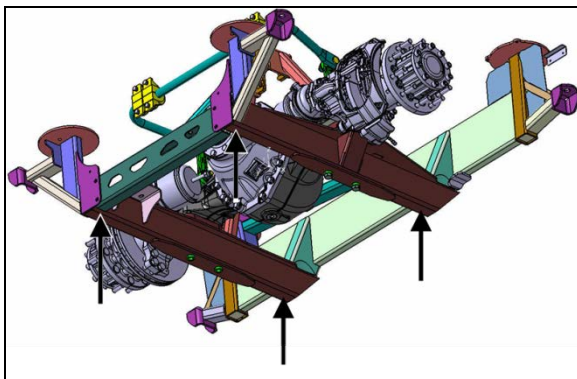

FIGURE 4: SUPPORT THE DRIVE AXLE SUBFRAME AT THE FOUR LOCATIONS SHOWN
8. Install jack stands under the drive axle subframe at the four locations shown on figure 4.